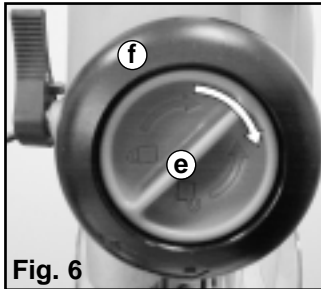

Fig. 6
1. Turn the Plunge Mode Selector (e) to "lock" (🔒). Turn it clockwise, then push and continue turning until it "clicks" home. **Fig 6.** This locks the Handle Winder (f).